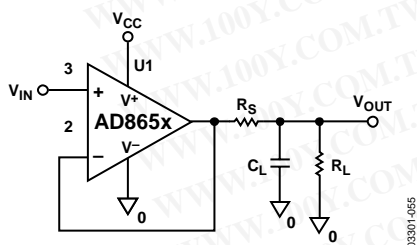

Figure 56. Driving Large Capacitive Loads
- As shown in Figure 56, place a small value resistor (R_S) in series with the output to isolate the load capacitor from the amplifier output. Heavy capacitive loads can reduce the phase margin of an amplifier and cause the amplifier response to peak or become unstable. The AD865x is able to drive up to 47 pF in a unity gain buffer configuration without oscillation or external compensation. However, if an application requires a higher capacitive load drive when the AD865x is in unity gain, the use of external isolation networks can be used. The effect produced by this resistor is to isolate the op amp output from the capacitive load. The required amount of series resistance has been tabulated in Table 5 for different capacitive loads. While this technique improves the overall capacitive load drive for the amplifier, its biggest drawback is that it reduces the output swing of the overall circuit.